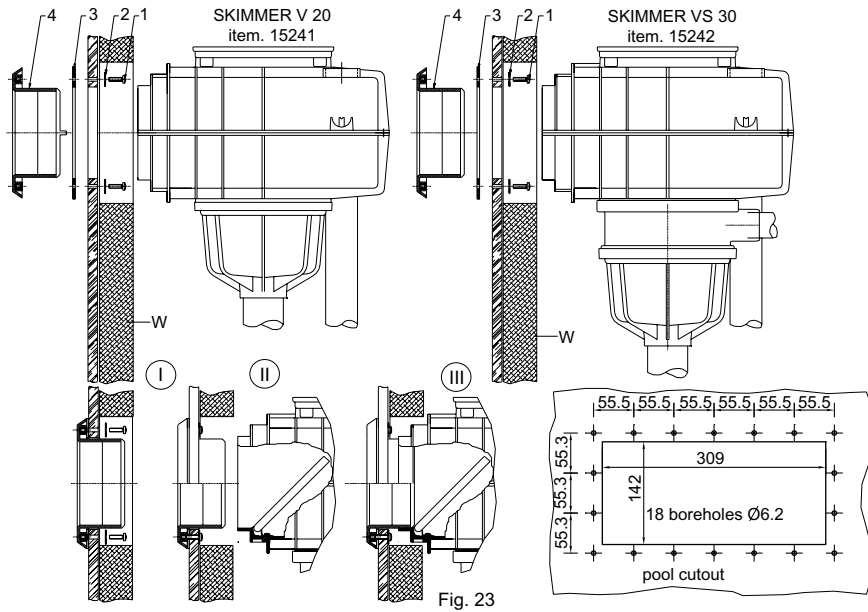

Fig. 23
3.8 Installing V20 and VS30 skimmers in sandwich constructed (Fig 23) polyester pools with skimmer wall lead-ins (Item 1522)